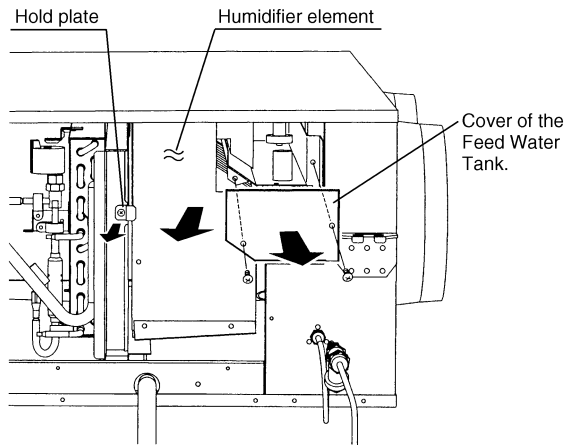

Fig. 5
4. Remove the cover of the feed water tank. (Fig.5)
5. Remove the hold plate. (Fig.5)
6. Pull out the Humidifier elements. (Fig.5)